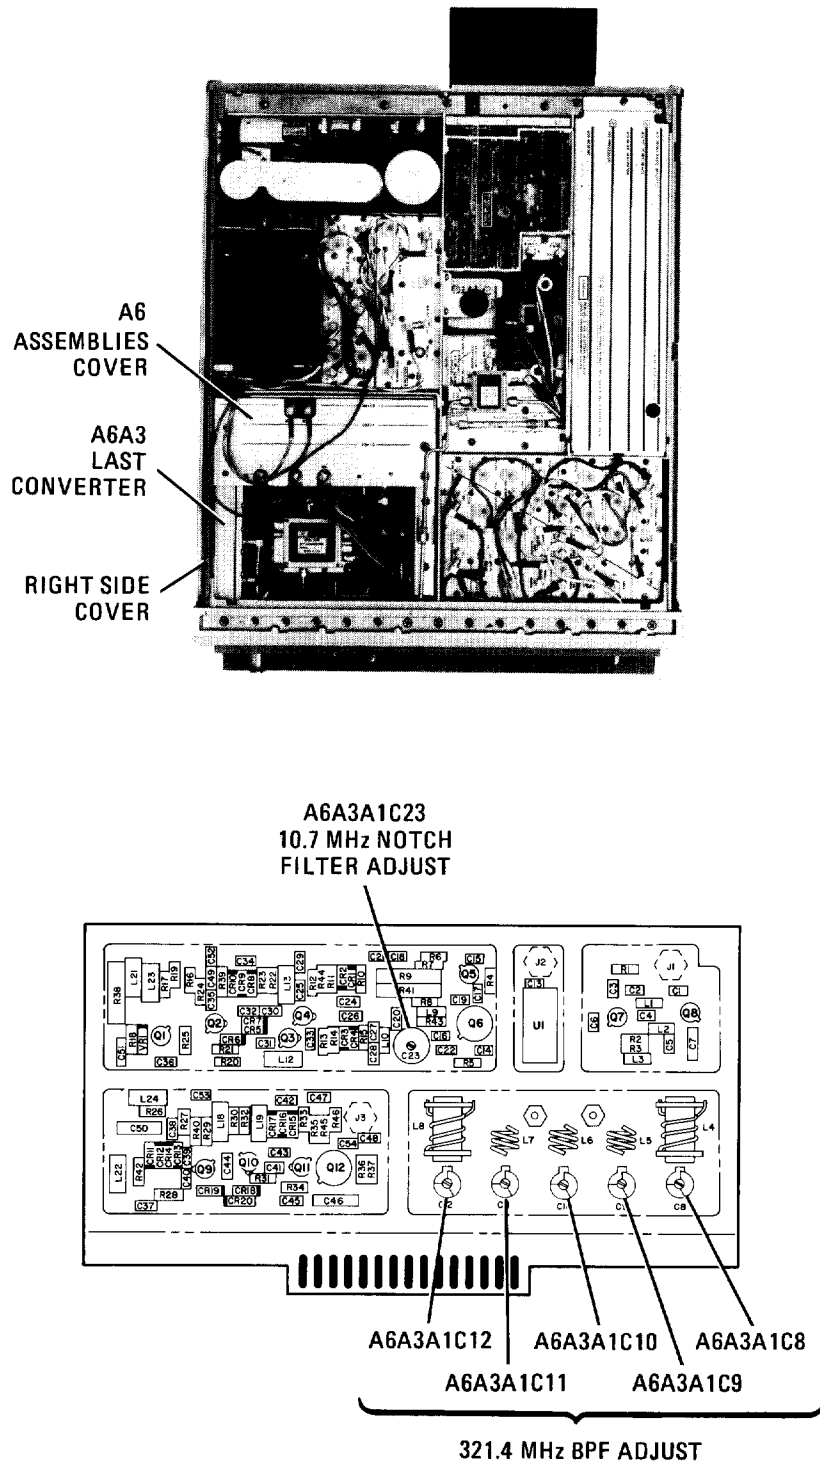

FIGURE 65. LOCATION OF LAST CONVERTER ADJUSTMENTS
4. Adjust A6A3 Bandpass Filter Adjustments A6A3A1C8, C9, C10, C11, and C12 to maximum capacitance position (plates fully meshed). Refer to Figure 65 for location of adjustments.